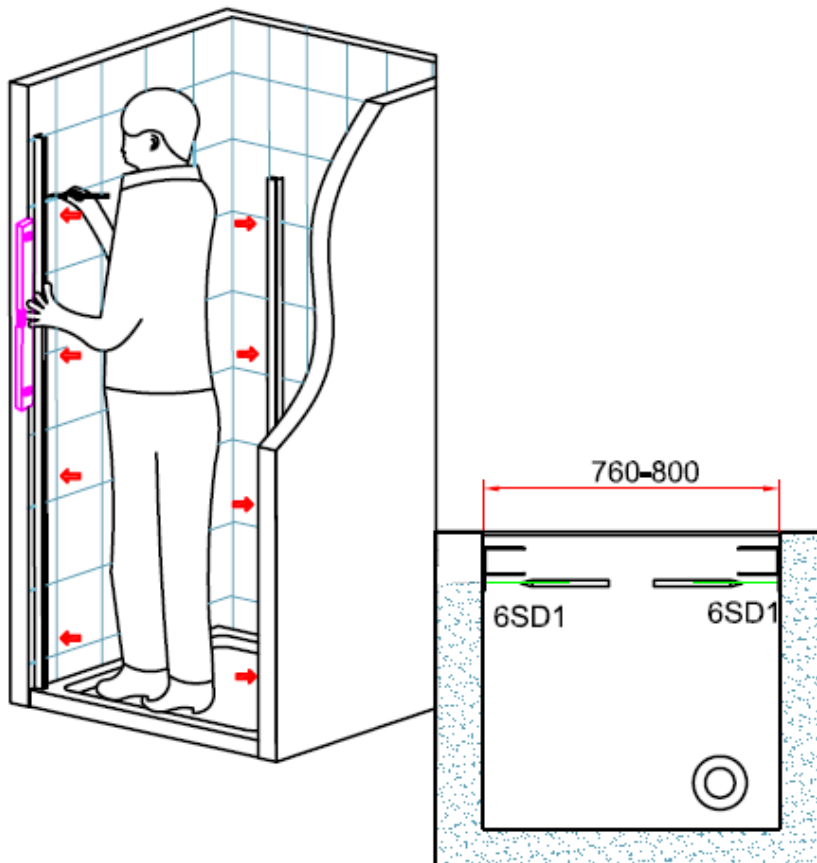

Figure 2
2. Lift the wall profile (6SD1) up to the wall. Check whether the frame is vertical by using a spirit level. Mark the holes to the walls with a pencil, as shown in figure 2.